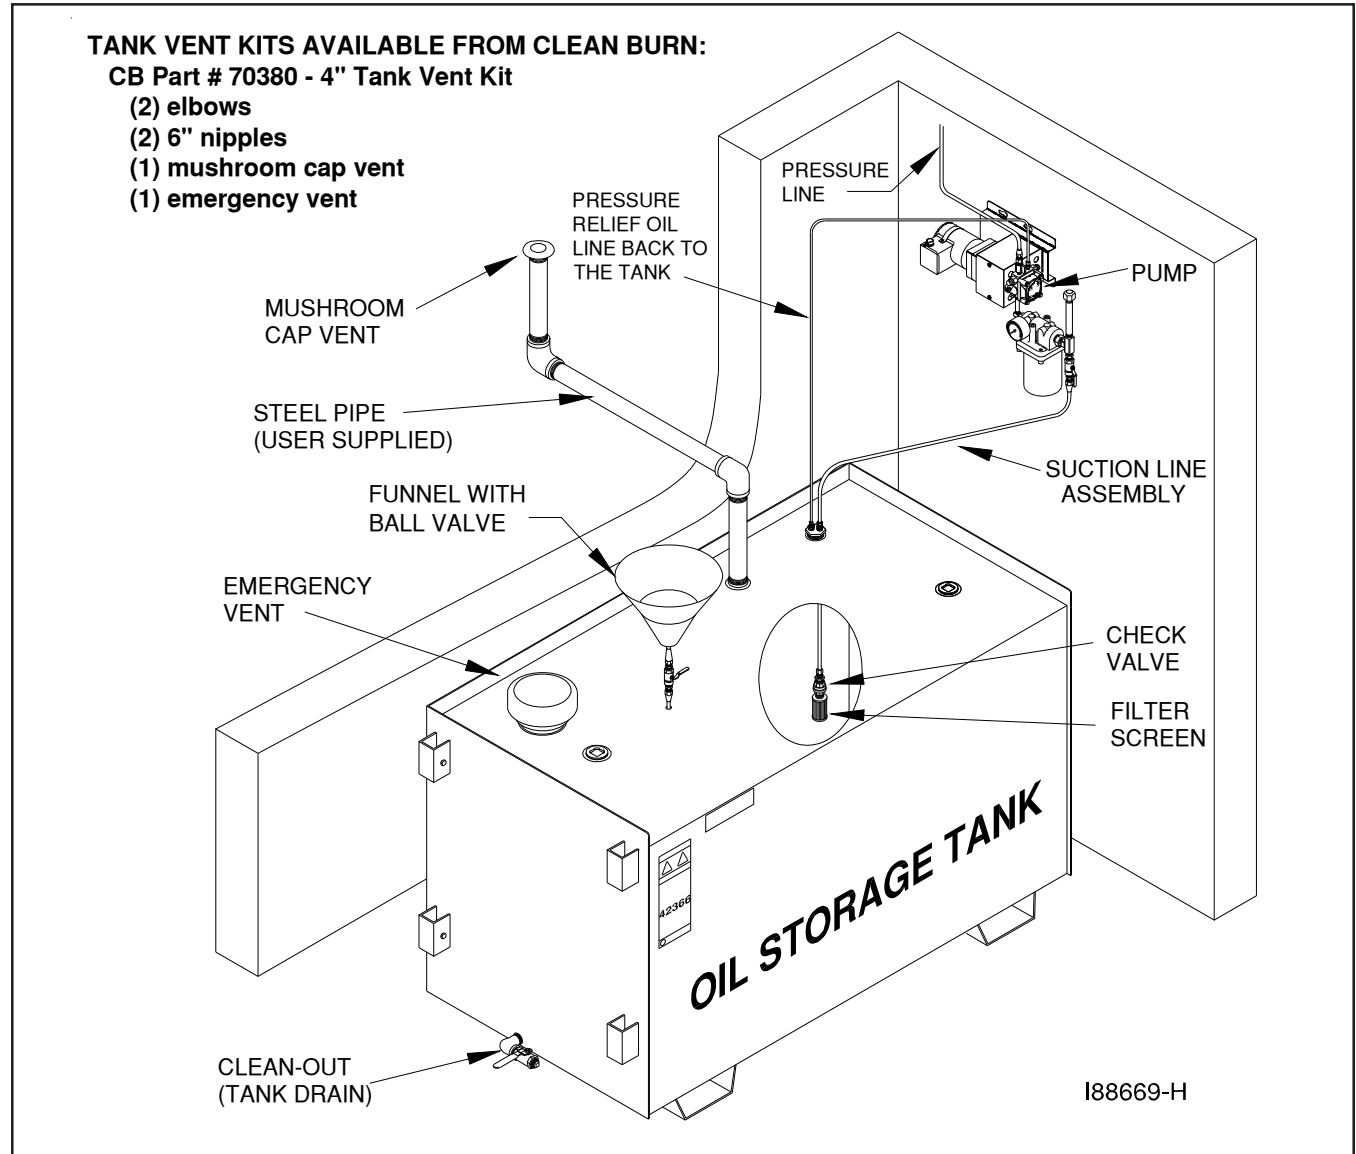

Figure 4F - Typical Metering Pump Installation with Inside Tank
Codes require that you install a tank vent (to the outside) and an emergency vent for your tank as shown in Figure 4F. **Tank Vent Kits** are available from Clean Burn; contact your local Clean Burn dealer to order. Be sure to check your local codes for any additional tank installation requirements, and adhere to the following installation guidelines:
- Install a length of minimum 5 cm (2") steel pipe (user-supplied) terminating outside with a proper vent cap as shown in Figure 4F. Consult local codes for information and requirements concerning the proper venting of oil storage tanks.
- Install an emergency vent as shown in Figure 4F. Contact your tank manufacturer for information concerning the proper emergency vent for your tank.